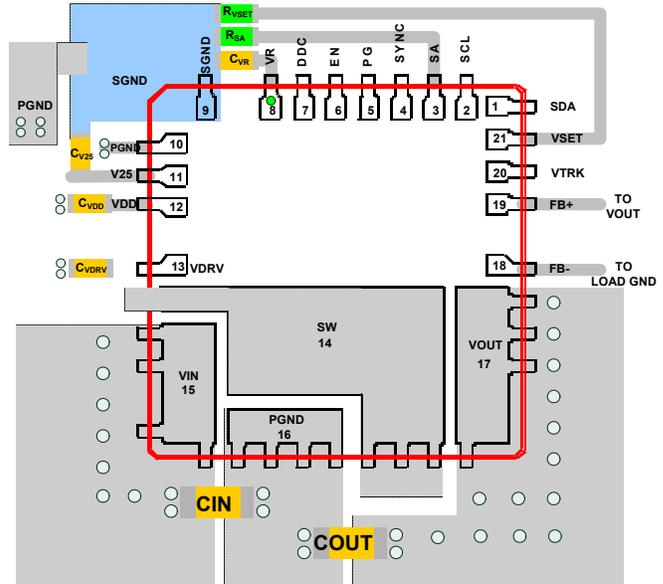

FIGURE 21. RECOMMENDED LAYOUT
- Establish a separate ground plane for SGND (pin 9) and PGND (pin 10 and pin 16) and connect them at a single point as shown in Figure 21. CV25, CVR, RSA and RVSET are placed on the bottom layer and are connected to a single SGND plane that is connected to the PGND at a single point. This will help to block the high frequency noise from entering to the controller via SGND.
- Place a high frequency ceramic capacitor between (1) VIN and PGND (pin 16), (2) VOUT and PGND (pin 16) and (3) bypass capacitors between VDRV, VDD, V25, VR and the ground plane, as close to the module as possible to minimize high frequency noise. High frequency ceramic capacitors close to the module between VOUT and PGND will help to minimize noise at the output ripple.